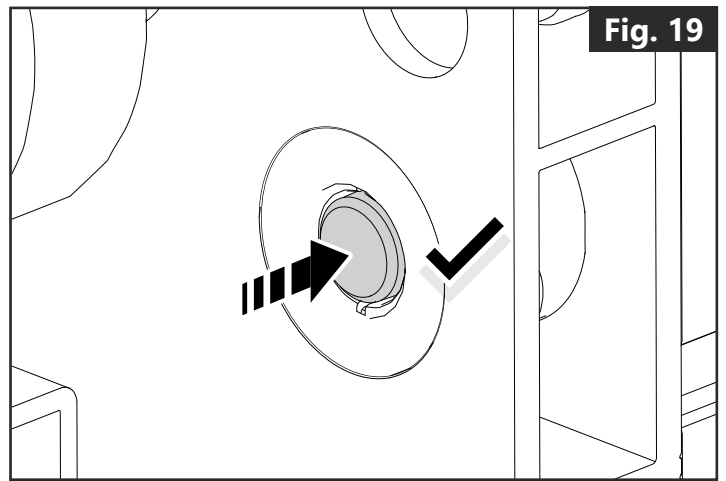
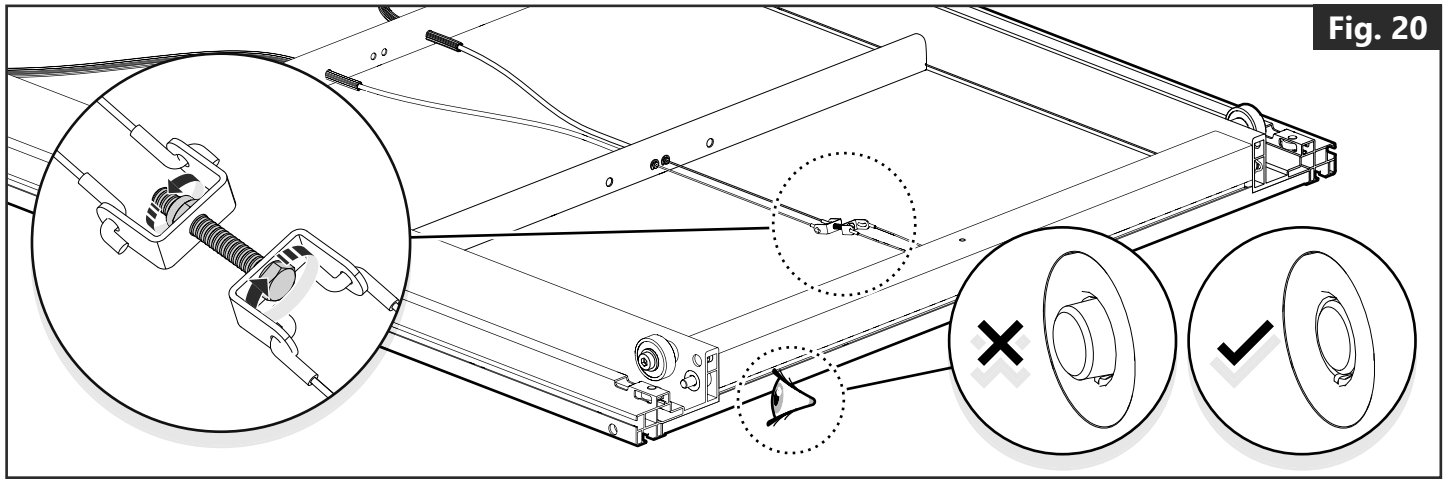

Fig. 19
Fig. 20
- The locking pins - located at the back of the deck (**Fig. 19**) - should retract completely when the deck handle pulled. If the locking pins do not retract completely, tighten the wire connector underneath the deck (**Fig. 20**) until the locking pins retract completely again.